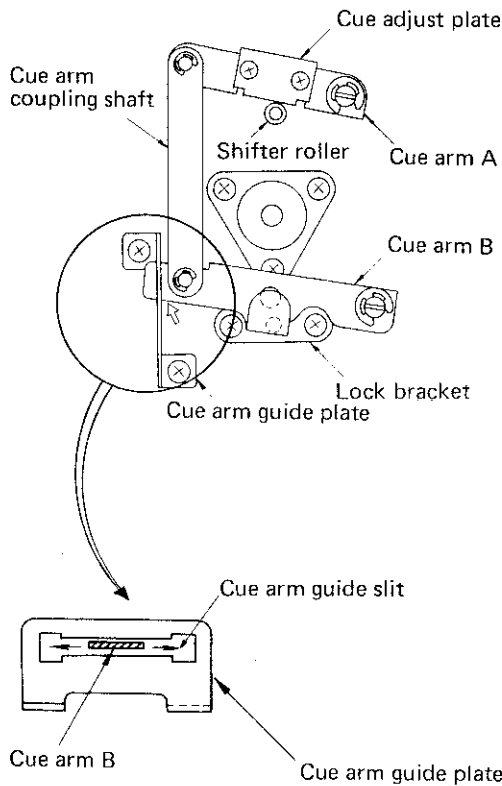

Fig. 13
1. Observe that cue arm B moves smoothly in cue arm guide slit (Fig. 13, 14), adjust by bending at the point indicated by the arrow in Fig. 13.
4. If cue lever lock and release are not smooth, loosen lock bracket screws (Fig. 13) and move lock bracket. Adjust so that lock pin (Fig. 14) moved smoothly in cue arm B lock hole.